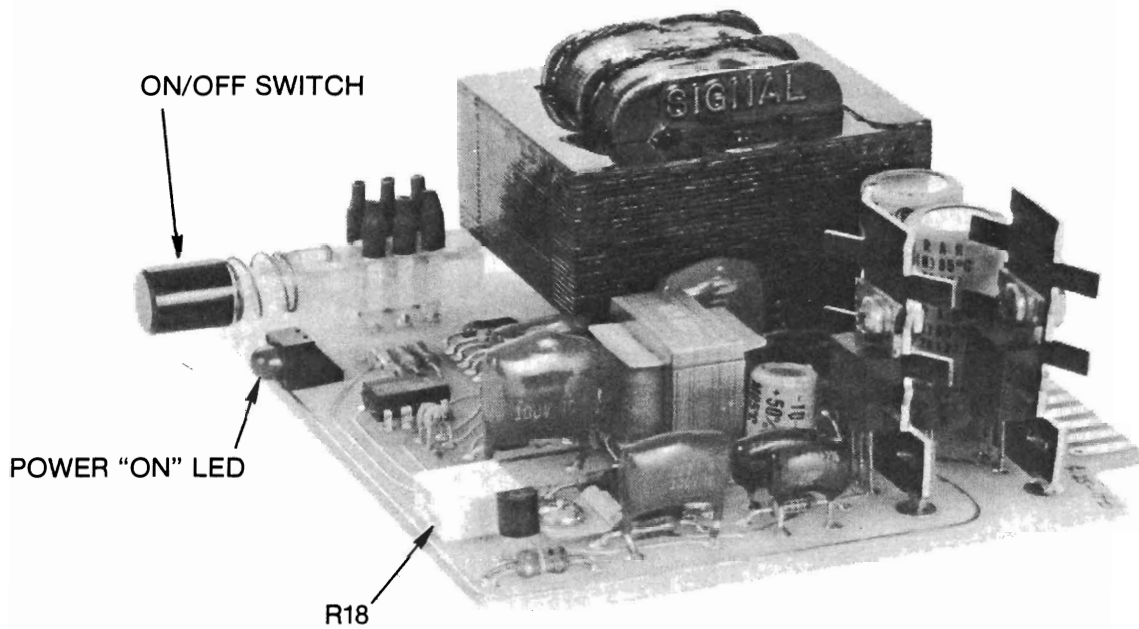

FIGURE 2-4. Plug-in Power Supply Board
2-5. The CD72 input power is controlled by a push-type ON-OFF switch mounted on the top right-hand side of the power supply circuit board. Mounted next to this switch is a LED indicator light which is lit when power is on. Figure 2-4 shows the location of the Power Supply Controls and Indicators.
A. Connect an AC DVM to the carrier excitation terminals of Channel A. Turn CD72 power on. The DVM should read 5.00 ± 0.05 Vrms. If not, use a small screwdriver to adjust R18 (at the top front of the power supply circuit board -- see Figure 2-4 for location) for a carrier voltage of 5.00 ± 0.05 Vrms. If desired an oscilloscope can be used to check the 5 kHz wave form, which should be sinusoidal.